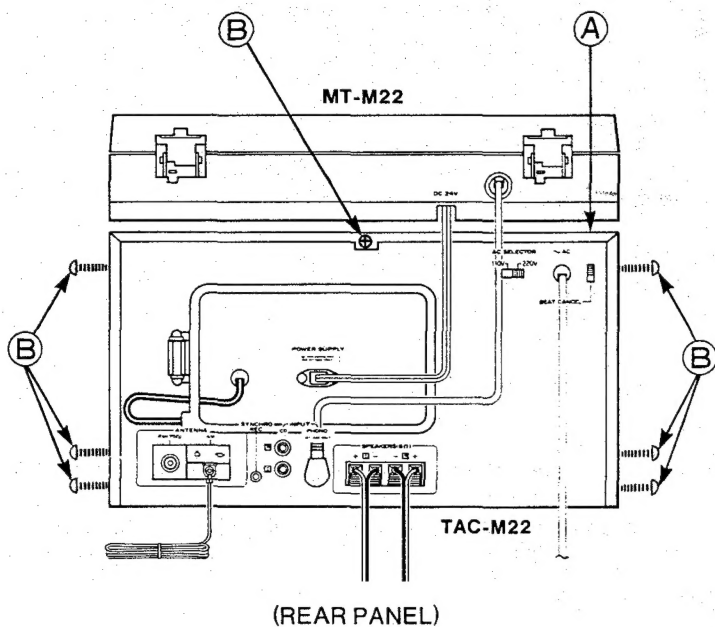

Fig. 1
1. Remove the seven screws (B) fastening Cabinet Cover (A). (Fig. 1)